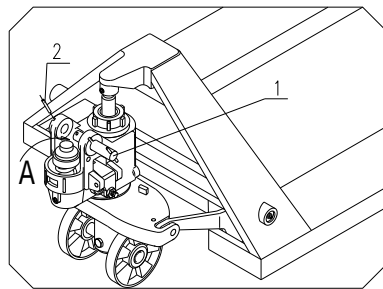

Fig. 1
3.1 See fig 1, pull out the pin roll 1.